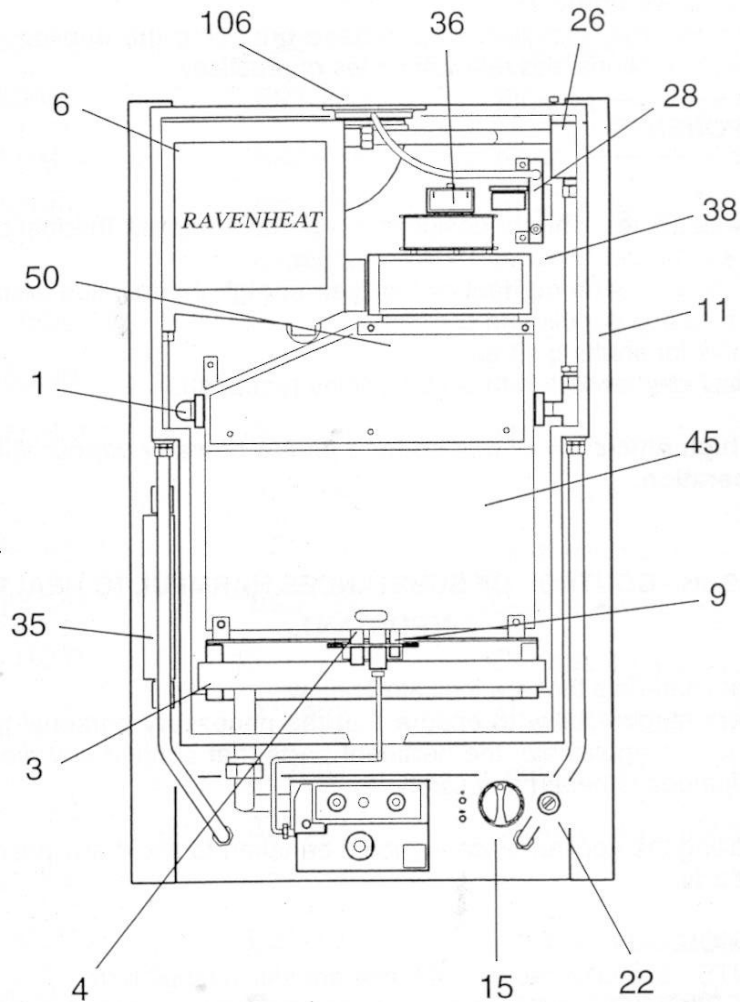

Fig. 1
BASIC COMPONENTS - (See figure 1)
- 1.2.1 Fig. 1 illustrates the general layout of components.